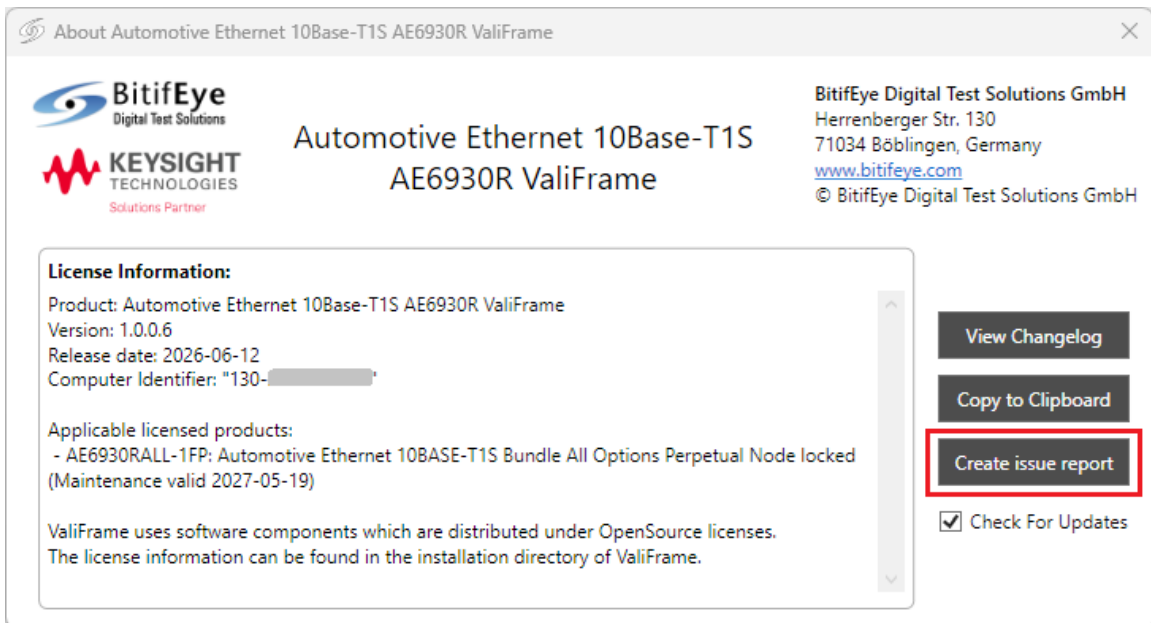

Figure 1-3 Creating an issue report file
- 2 Click the **Create issue report** button in the About window (Figure 1-3). This will create the file BitifEye_IssueReportFile.zip saved on your desktop.